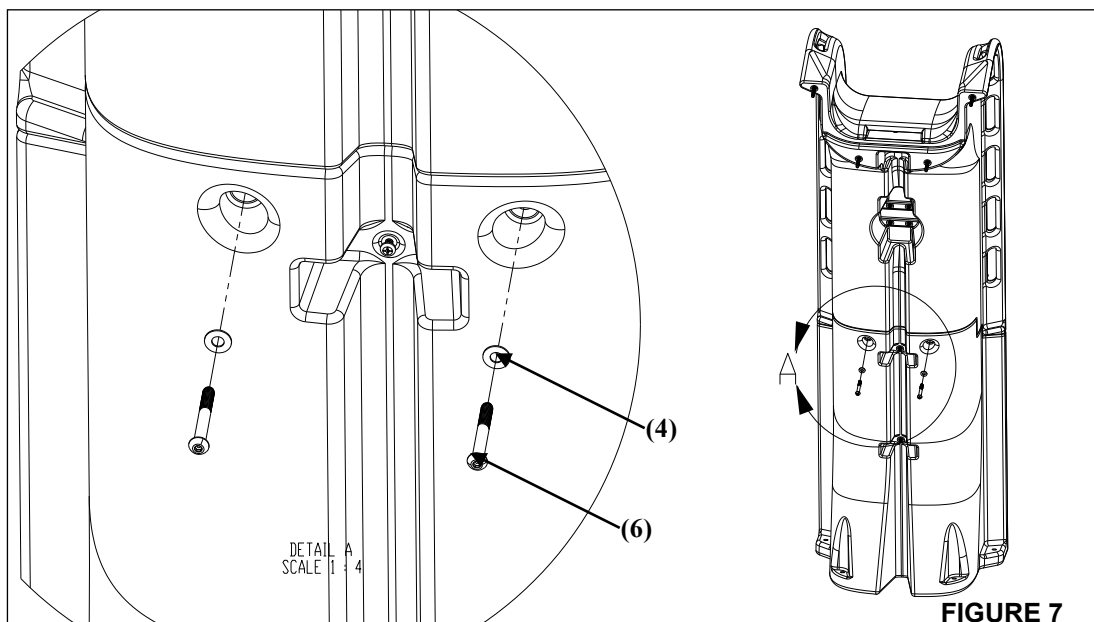

FIGURE 7
6) Insert the button head cap screws into the back side of the ladder as shown in Figure 7. Tighten the screws until snug. Go back and fully tighten the screws from Step 7. **Note: Be sure to apply anti-seize to all fasteners to prevent galling.**